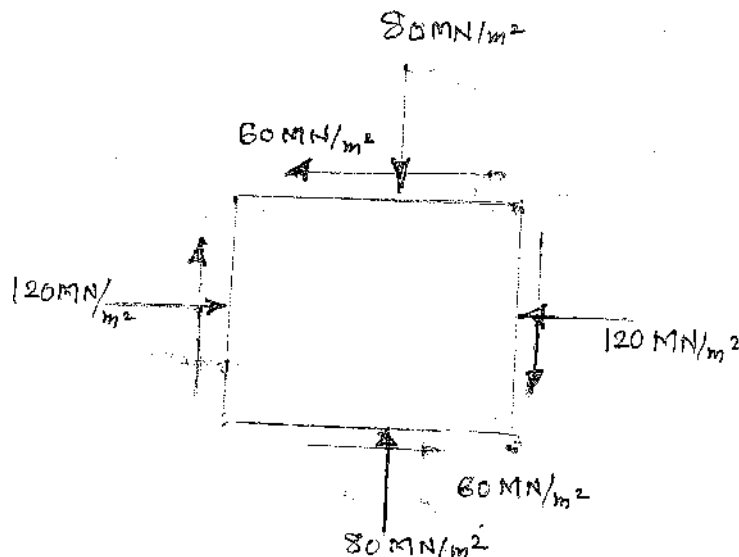

Fig. 8.1
- b) Figure 8.1 shows the state of stress of a point in two dimensional stress body. Determine magnitudes and directions of